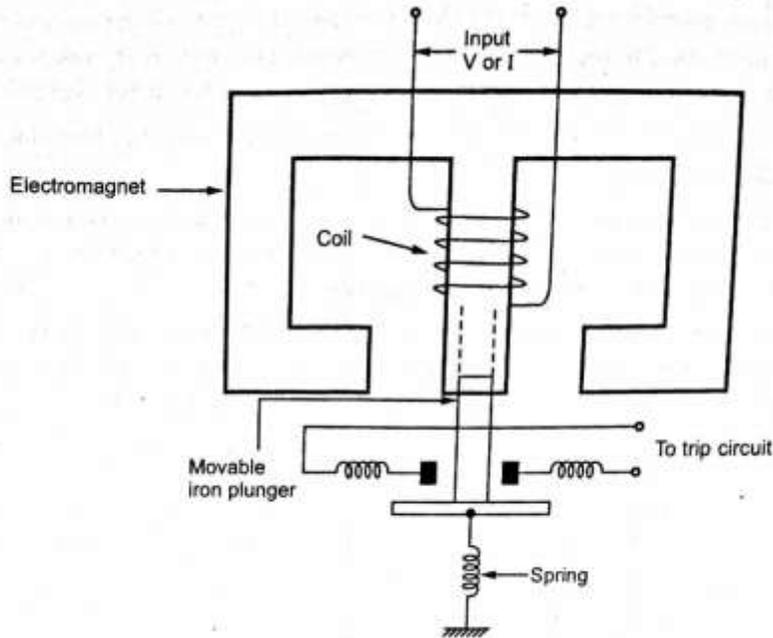

Fig. 2.7 Solenoid and plunger type relay
- The Fig. 2.7 shows the schematic arrangement of solenoid and plunger type relay which works on the principle of electromagnetic attraction.